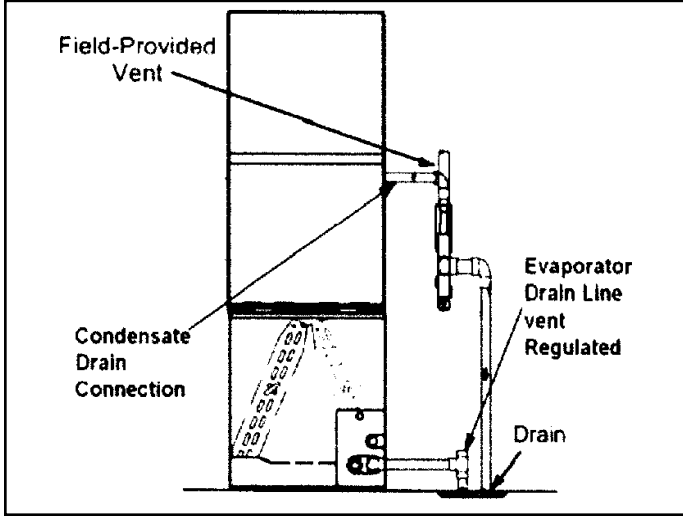

Figure 39. Evaporator Coil Using a Separate Drain
5. Figure 39 shows the furnace and evaporator coil using a separate drain. If necessary the condensate line from the furnace and evaporator coil can drain together. See Figure 40. The field provided vent must be minimum 1" to a maximum 2" length above the condensate drain outlet connection.